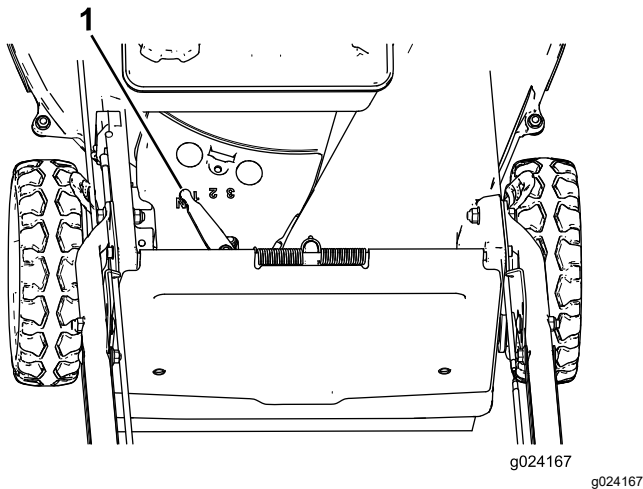

Figure 14
This machine has 3 ground speeds: 1 (slow), 2 (medium), and 3 (fast); it also has a Neutral (N) position. The self-propel-drive lever is located below and behind the fuel tank (Figure 14).